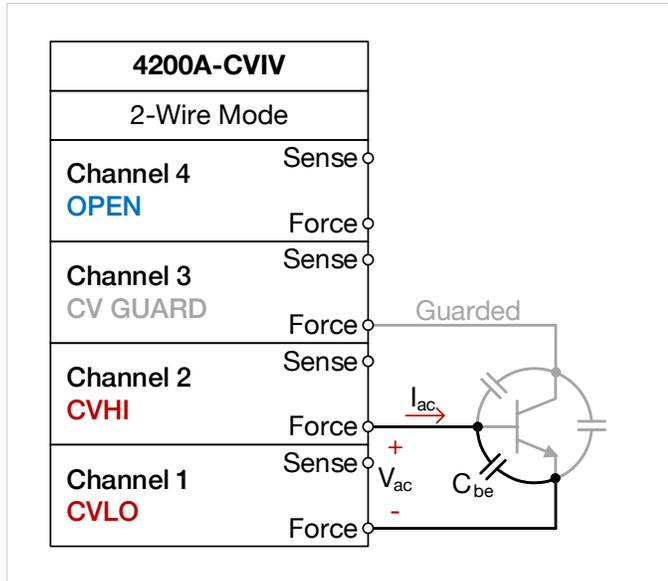

Figure 11. Base-emitter capacitance measurement on a BJT using the 4200A-CVIV.
**Figure 11** shows the device connections, and 4200A-CVIV settings, for a guarded capacitance measurement on the  $C_{be}$  of a BJT.